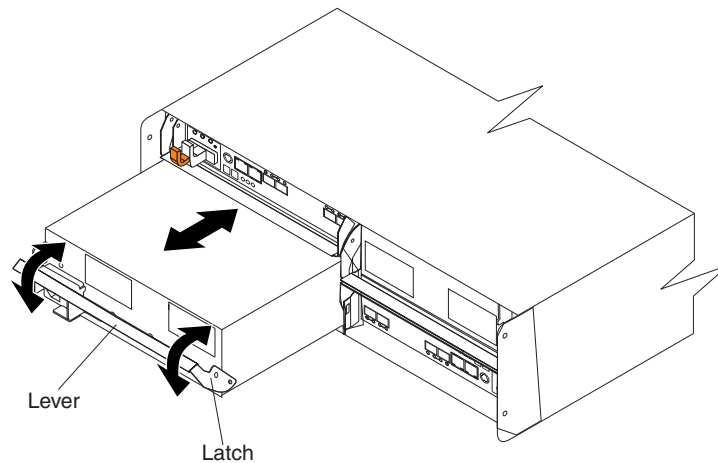

Figure 16. Removing a power supply and fan unit
2. Slowly pull the lever away from the chassis to remove the power supply and fan unit, as shown in Figure 16 on page 37.